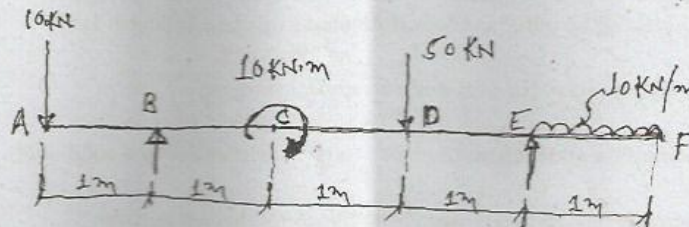

Fig. 12 (a)
12. (a) Analyze the beam shown in Fig. 12 (a) and draw the SFD with salient values in it. Also, specify the points of 'zero-SF' and 'SF-crossings' in it (if any). (6 + 4 + 3)